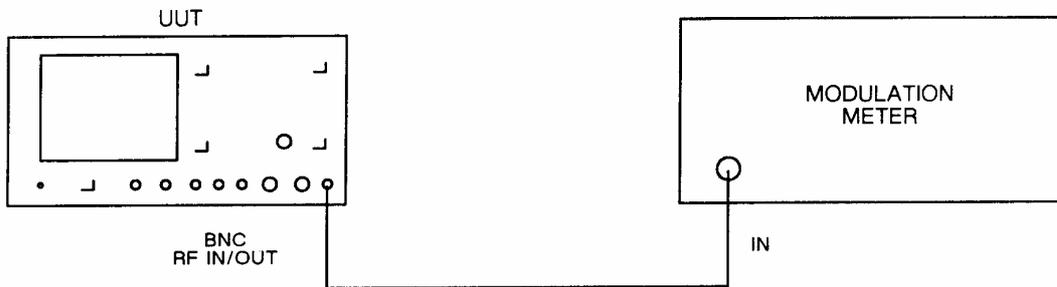

Fig. 5-1-21 Test equipment connections for RF generator AM & FM internal accuracy performance checks
- (1) Connect the equipment as shown in Fig. 5-1-21.